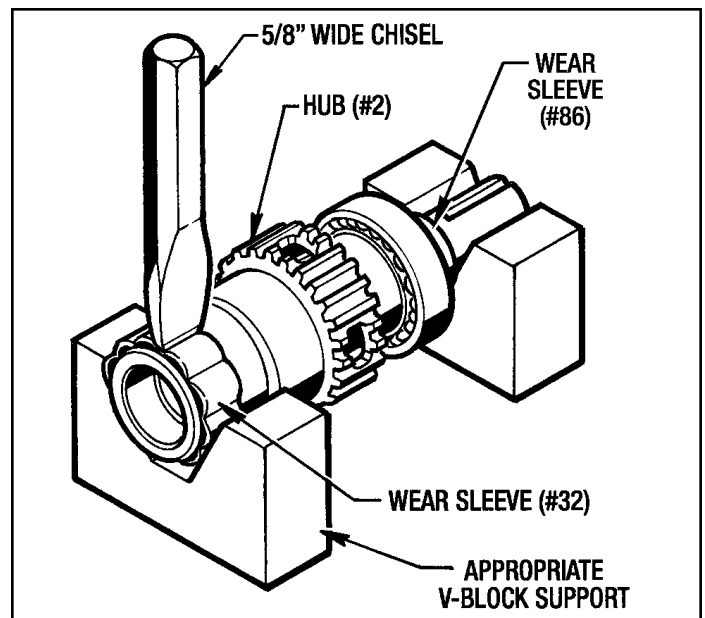

Figure 7.6 - Removing Wear Sleeve (#32)
1. Set the Hub (#2) into appropriate V-Block Supports as shown in *Figure 7.6*. With a 5/8" wide chisel and a mallet, make 6 to 8 notches in the Wear Sleeve (#32). Pry the Wear Sleeve (#32) off the Hub (#2). Use the same procedure to remove Wear Sleeve (#86).